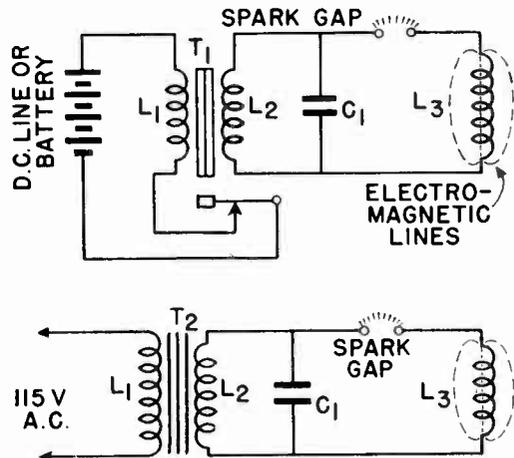

Fig. 3
*Spark Coil Generators for Development of Electric Fields.* For higher frequencies, spark coil and tube generators are used. The spark coil generators are shown in Fig. 3. Such arrangements are commonly used in induction furnaces, but are producers of electrical interference and, for this reason, although simple and efficient, their employment is sometimes considered unwise.